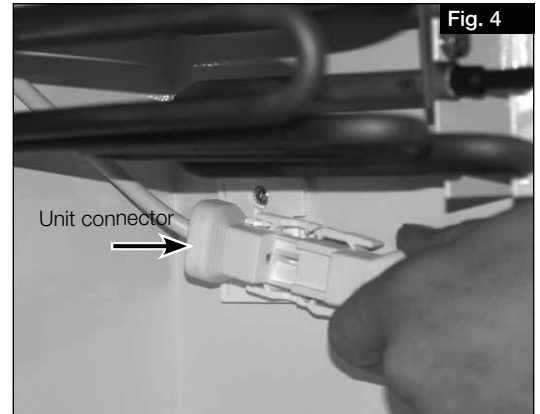

Fig. 4
5. Attach the electrical pre-heater connector to the pre-assembled unit connector (see Fig. 4).